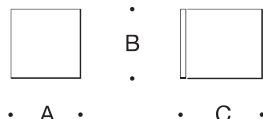

Figure 1: Mounting
2. Feed luminaire wires through luminaire base and KIT #61 adapter plate (Figure 1).
5. Place luminaire base over #8-32 studs on KIT #61 adapter plate (Figure 1).